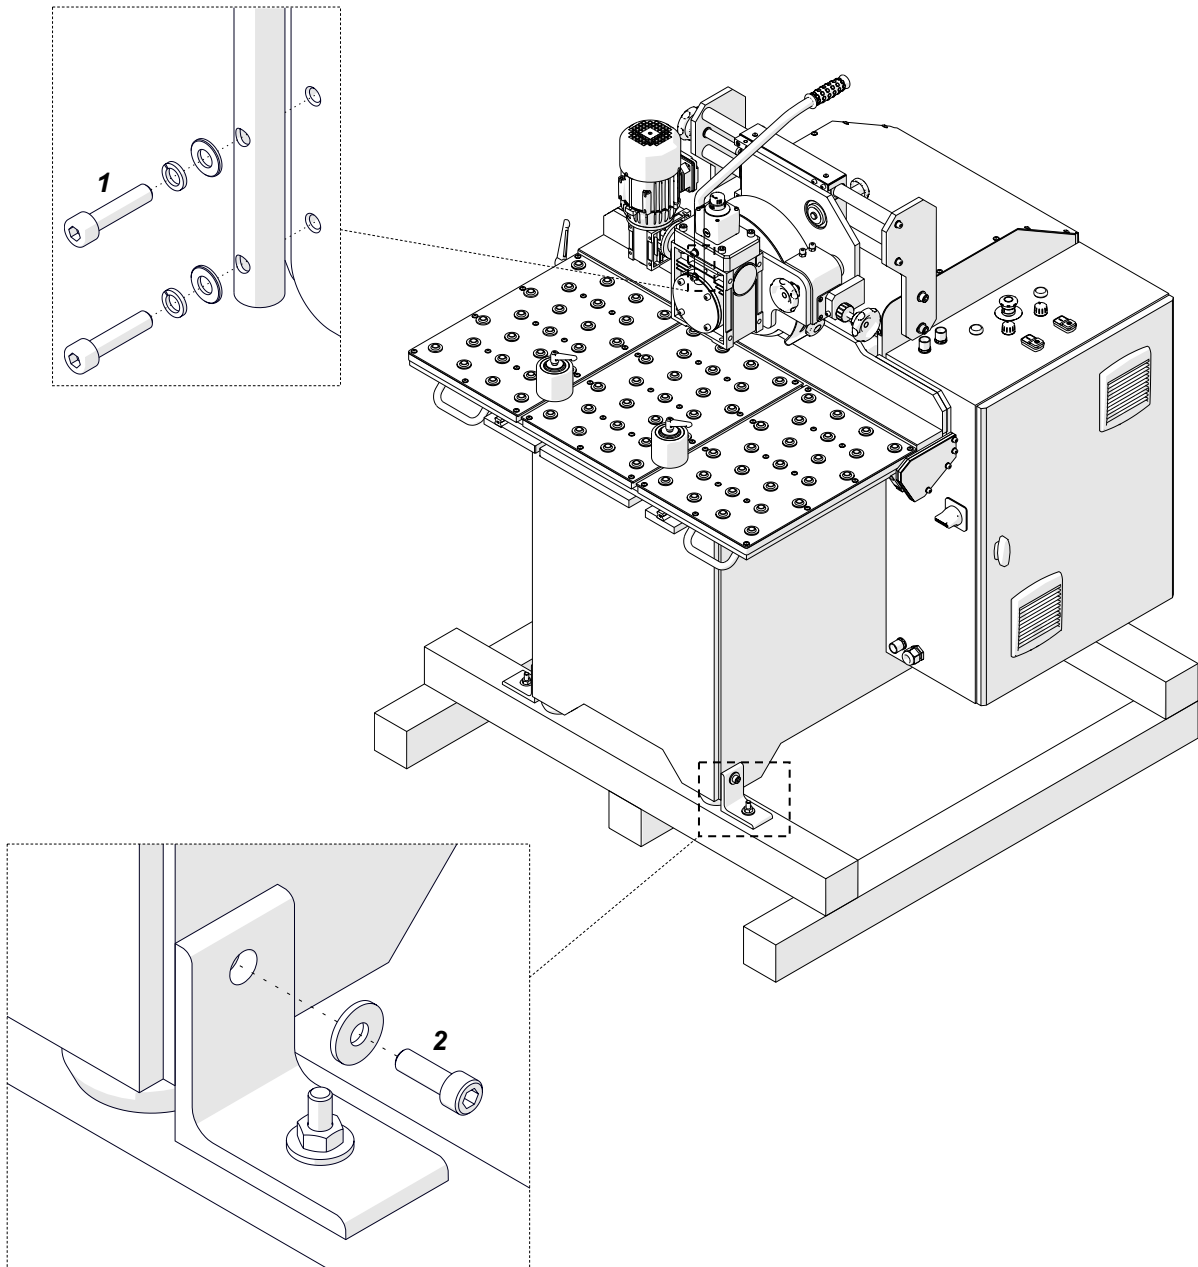

Fig. 2. Installing the handle and detaching the machine from the base
Use the 6 mm hex wrench to tighten the handle (1, Fig. 2). Then, use the 8 mm hex wrench to detach the machine from the brackets (2).